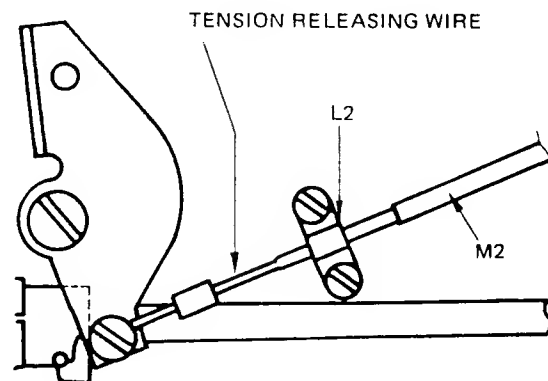

Fig. 84
2. Loosen the two screws holding the tension releasing wire guide tube clamping plate L2 and move guide tube M2 to the left or right as required and firmly tighten the screws. (Fig. 84)